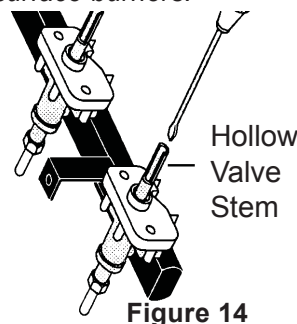

Figure 14
- Insert a thin-bladed screwdriver into the hollow valve stem and engage the slotted screw inside. Flame size can be increased or decreased with the turn of screw. Turn counterclockwise to increase flame size. Turn clockwise to decrease flame size (Figure 14). Adjust flame until you can quickly turn knob from LITE to lowest position without extinguishing the flame. Flame should be as small as possible without extinguishing.